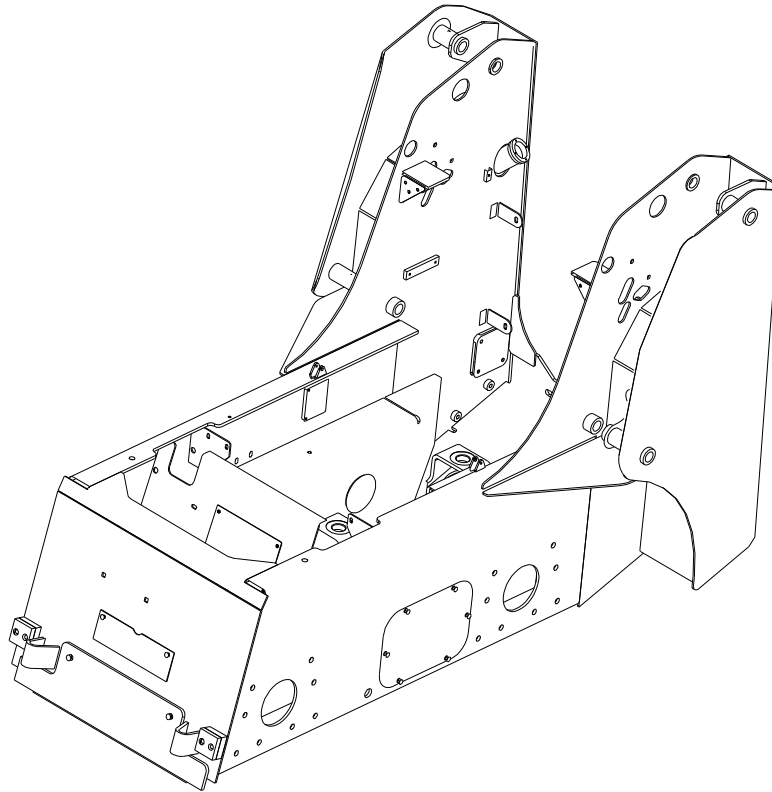

Figure 8 FEAME
2.5.4.1 The frame is a installing and connecting base of all parts of the machine. The frame adopts a high strength welding technology to assures long-time work in intensive operating environment. Integration design of the fuel tank , the hydraulic oil tank and the machine body greatly improves the effective utilization ratio of the solvent and the space of the oil tank. Shown in Figure 8